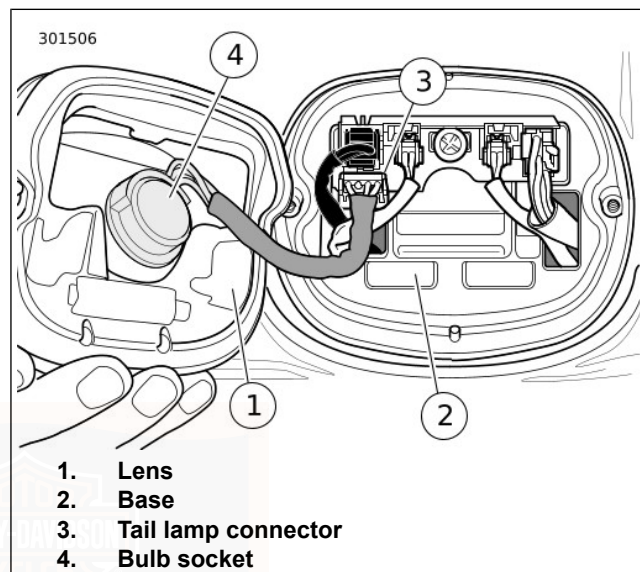

Figure 98. Tail Lamp Assembly
2. See Figure 98. Disconnect tail lamp connector (3).
3. Rotate bulb socket (4) a quarter turn counterclockwise and remove from tail lamp assembly. Remove bulb.
2. See Figure 98. Insert socket (4) into tail lamp assembly. Rotate a quarter turn clockwise.
3. Attach tail lamp connector (3).